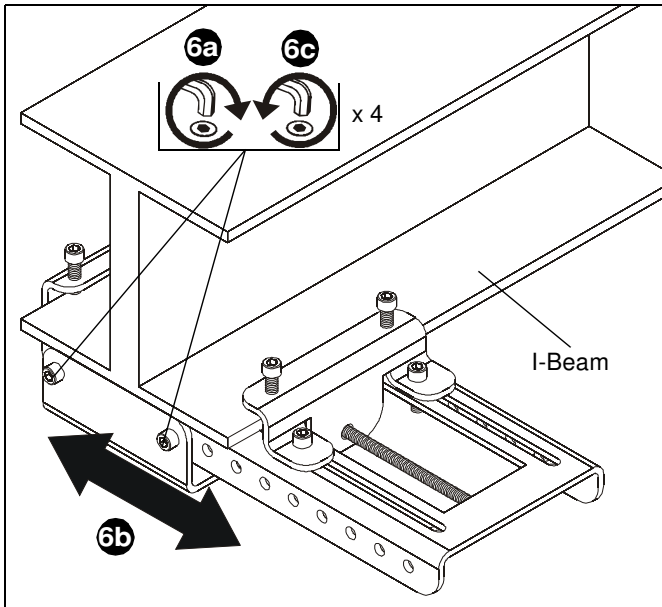
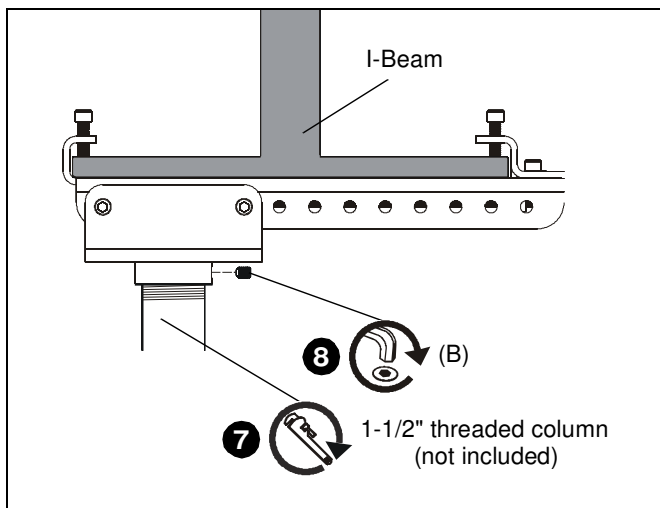

Figure 5
Figure 6
6. If carriage relocation is desired complete the following steps: (See Figure 5)
- a. Remove four side screws and nuts using 1/4" hex key (D) and socket set.
7. Using pipe wrench, install 1-1/2" NPT or NPSM following ANSI/ASME B1.20.1 (Schedule 40, 0.154" minimum thickness aluminum - ASTM B221) threaded extension column (not included) into threaded collar until tight, with a minimum of four threads engaged. (See Figure 6)
8. Using 5/32" hex key and 5/16-18 x 3/8" set screw (B), secure CMA360 to threaded extension column. (See Figure 6)